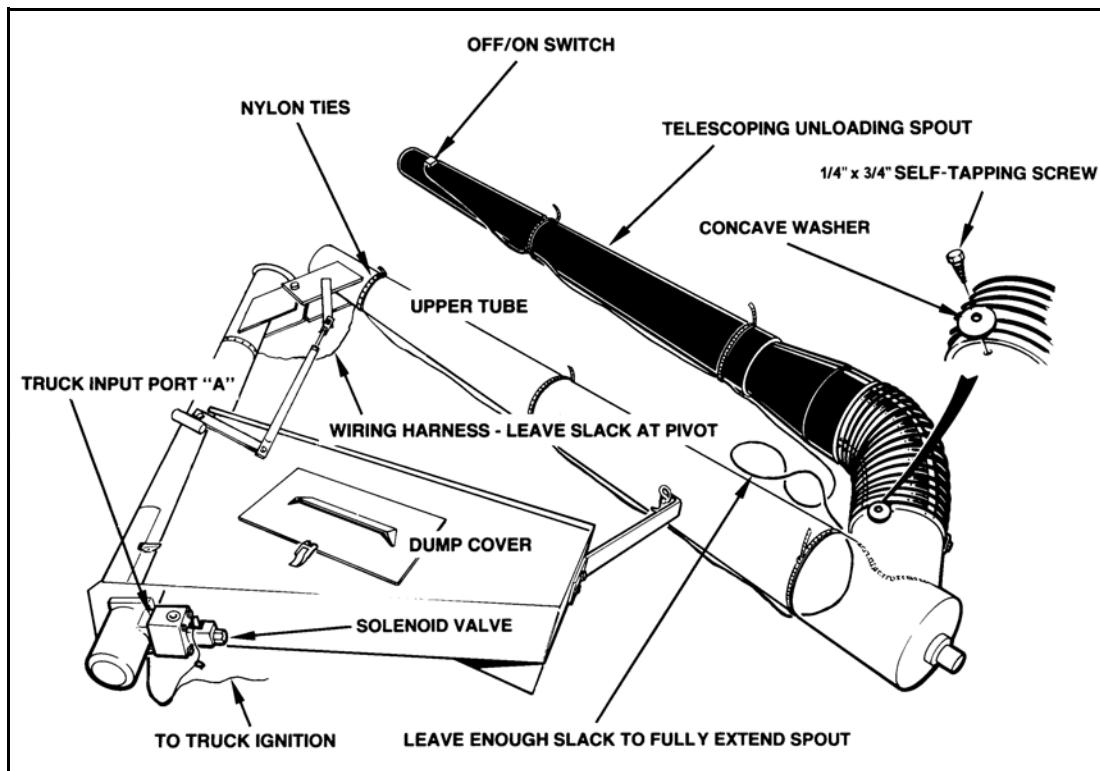

Figure 3.10 Switch
- Leaving some slack at the solenoid, route the wiring harness up the back side of hopper and tube sections, outside the pivot brackets. Secure with 7 nylon ties (Figure 3.10).
- Mount OFF/ON switch to the pre-drilled holes near the telescopic unload spout handle with two 1/4" x 1/2" bolts and whiznuts (Figure 3.10).
- Secure the wiring harness to telescopic unload spout with nylon ties (Figure 3.10).